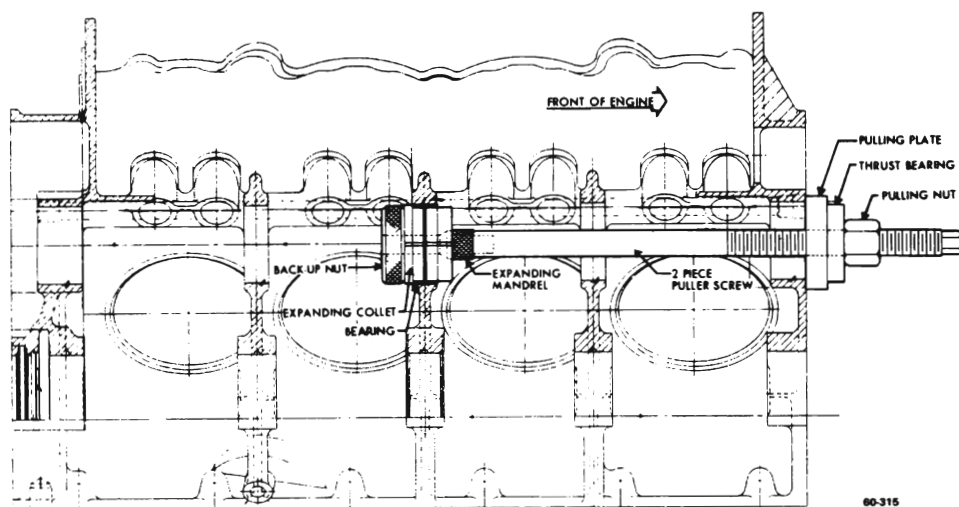

Figure 60-245B - Removing and Installing Camshaft Bearings
8. Bearing can then be removed by turning pulling nut. See Figure 60-245B.